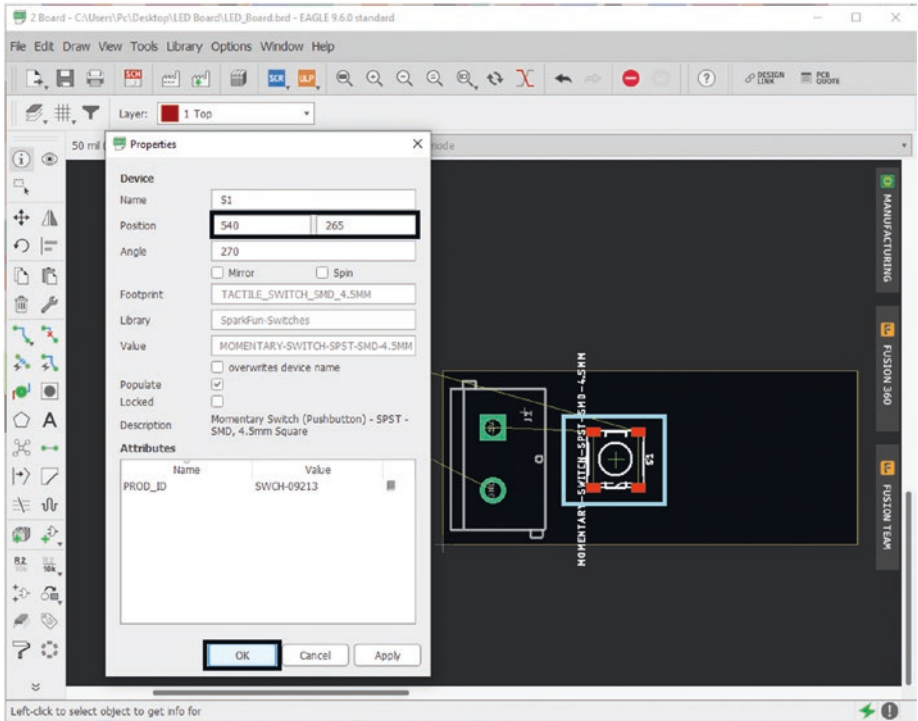

Figure 5-65. Move button
14. Next, move the push button onto the PCB. Pay attention to the yellow lines going from one component to the next. These lines are the nets you created in the schematic. The position for the button should be “540” and “265.” See Figure 5-65.